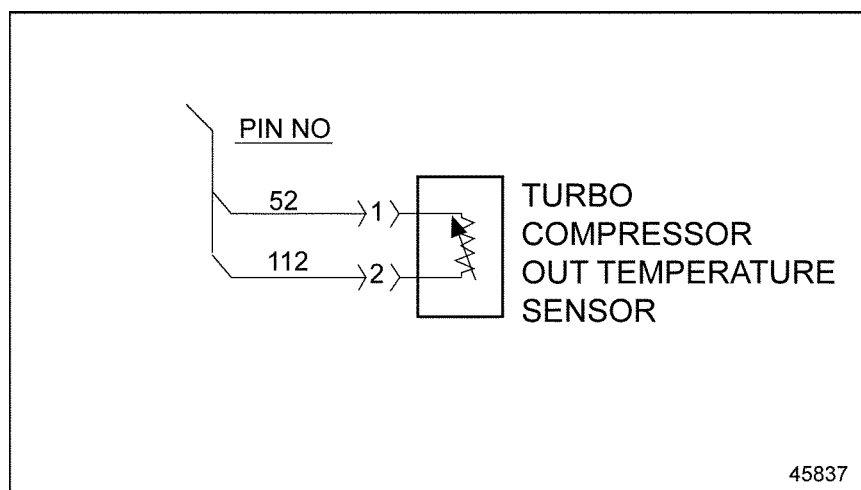

Figure 38-2 Turbo Compressor Outlet Temperature Sensor
- [a] If the resistance is less than 5k Ω , repair the short between the 120-pin MCM connector wire 50 and 112. See Figure 38-2. Refer to section 38.2.1.1.